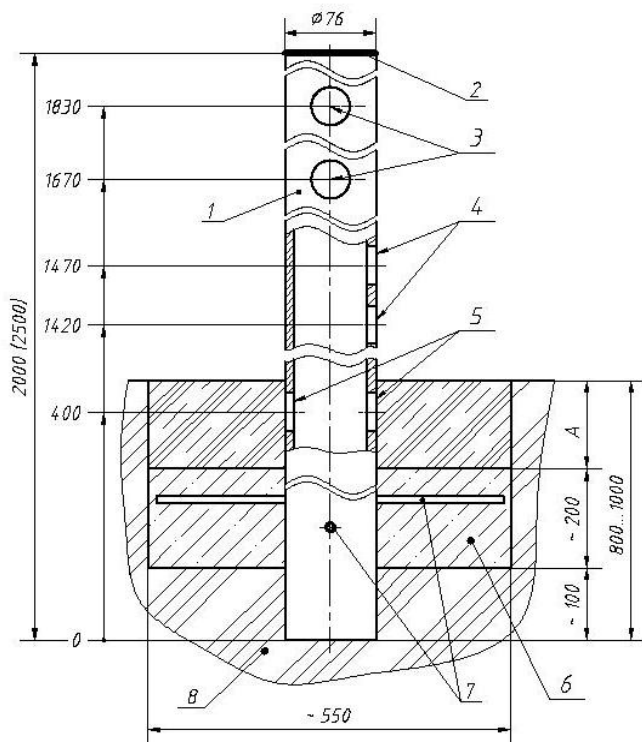

Fig. 8.3
- 6.3.3.** The manufacturer recommends to use supports for sensor installation on the ground. The customer can make the supports by himself (drawings are provided by the manufacturer) or order them. The supports may be 2 m or 2,5 m long. The supports are made of a steel pipe of 76 mm diameter. The support construction has pins for fastening and holes for cable input. The example of support mounting is shown in fig. 8.3.
1. The support mounting on the ground is given in fig.8.3 (item 8.2).
- 8.2.2. Ground installation type with supports is shown in fig. 8.3.